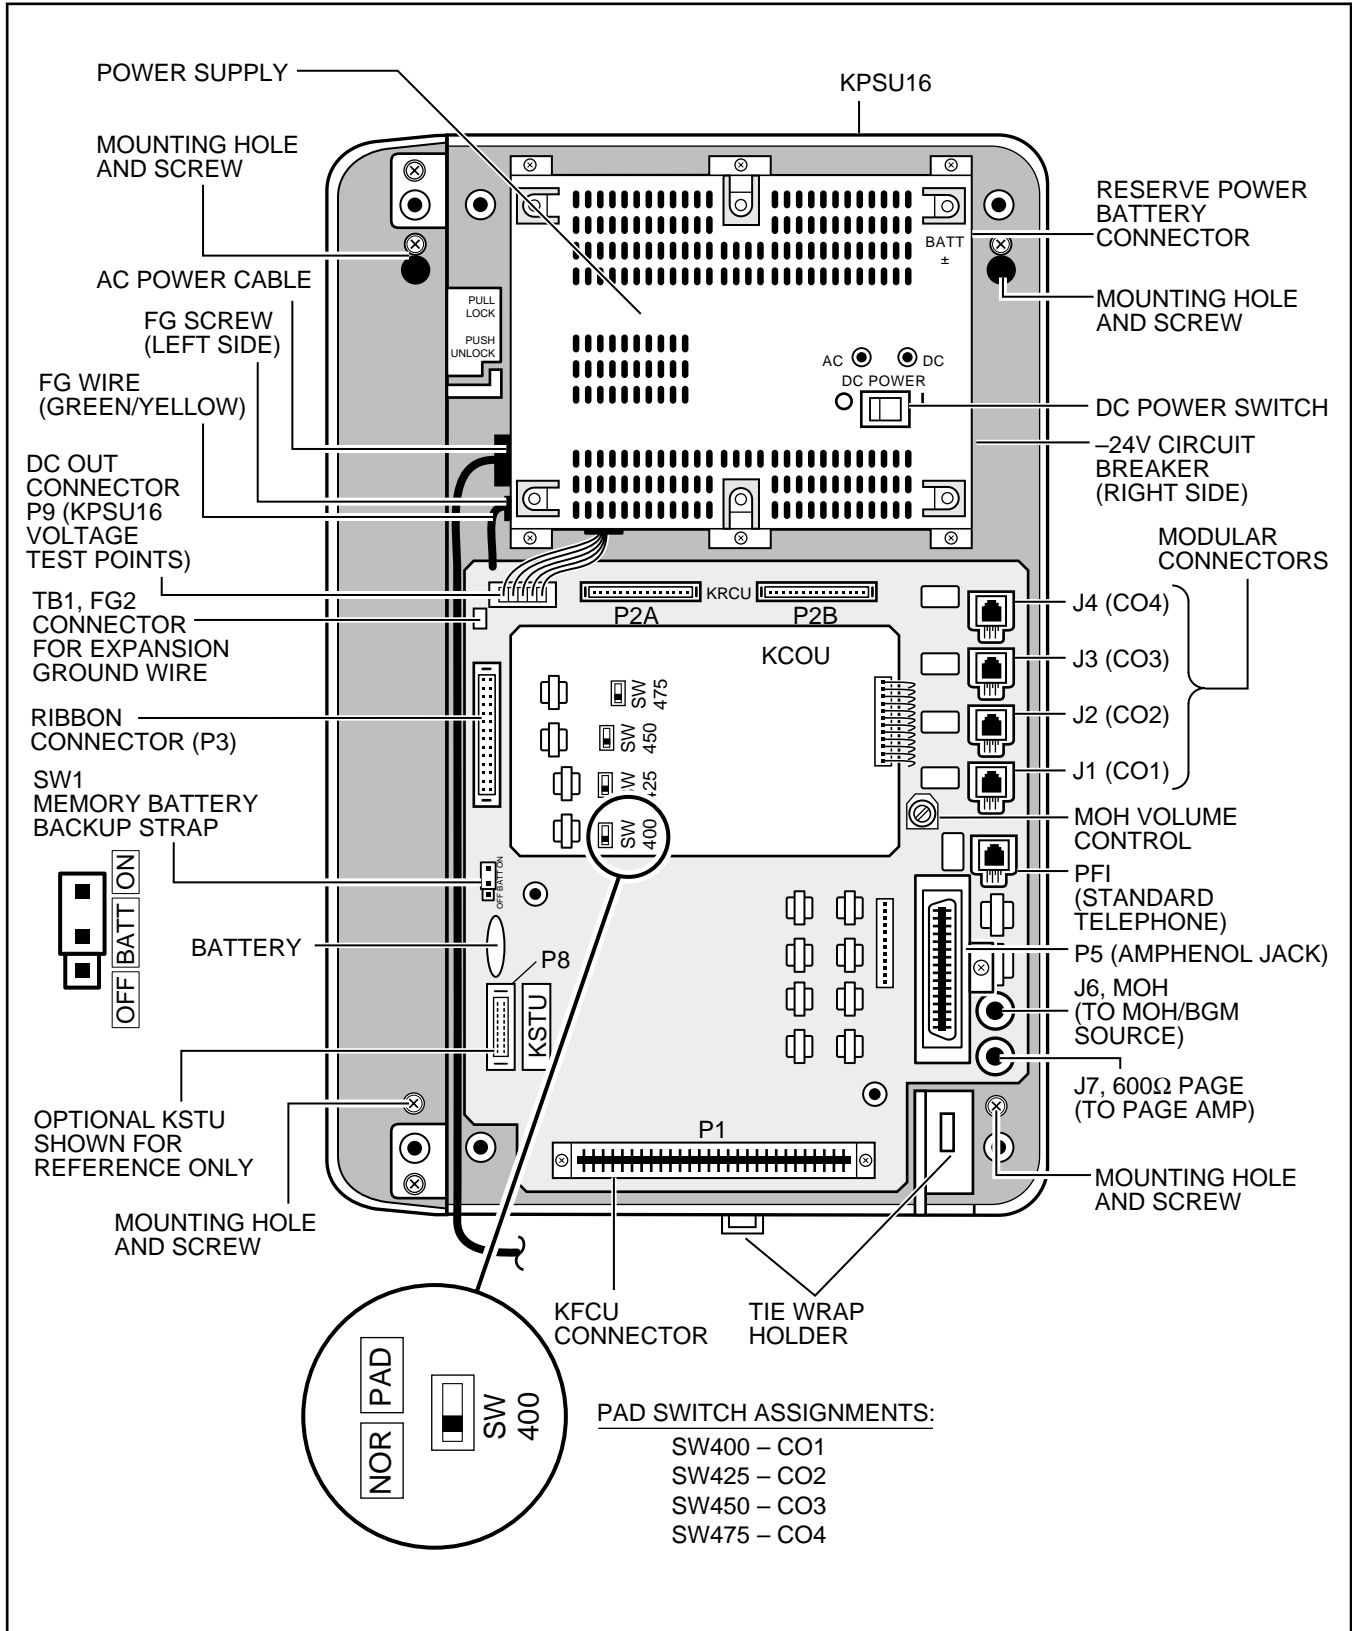

FIGURE 5-3
- 2) Move the **SW1** Memory Battery Backup strap on the motherboard to the ON position (Figure 5-3).
- 5) Plug the AC power cable into an outlet (Figure 5-3).
- 6) Turn the switch on the power supply to the ON position (Figure 5-3).
- 7) Using a voltmeter or other device which checks voltage, measure the voltages referenced to frame ground (FG) at the **DC OUT connector pins** (test points) located on the motherboard (Figure 5-3). The voltages should fall within the ranges below. If the voltages do not fall within the ranges, unplug the DC power pins from the DC OUT connector and measure again at the same location; if the ranges remain unacceptable, replace the power supply (see Paragraph 3).
- 9) Connect Reserve batteries (per Paragraph **2.40**) and plug battery cable into BATT connector of the KPSU16 power supply (Figure 5-3 and 5-4).
- 10) Set the KCOUPAD switches (SW400-SW475) to the appropriate position (Figure 5-3). The factory setting is NORMAL. If CO lines are connected to a PBX or are in close proximity to the central office the PAD position may be required.
- 6) Connect Expansion Unit green/yellow ground wire plug (FG2) to TB1 of the Base Unit. (Make sure the plug locks on TB1.) See Figure 5-3 and 5-4.